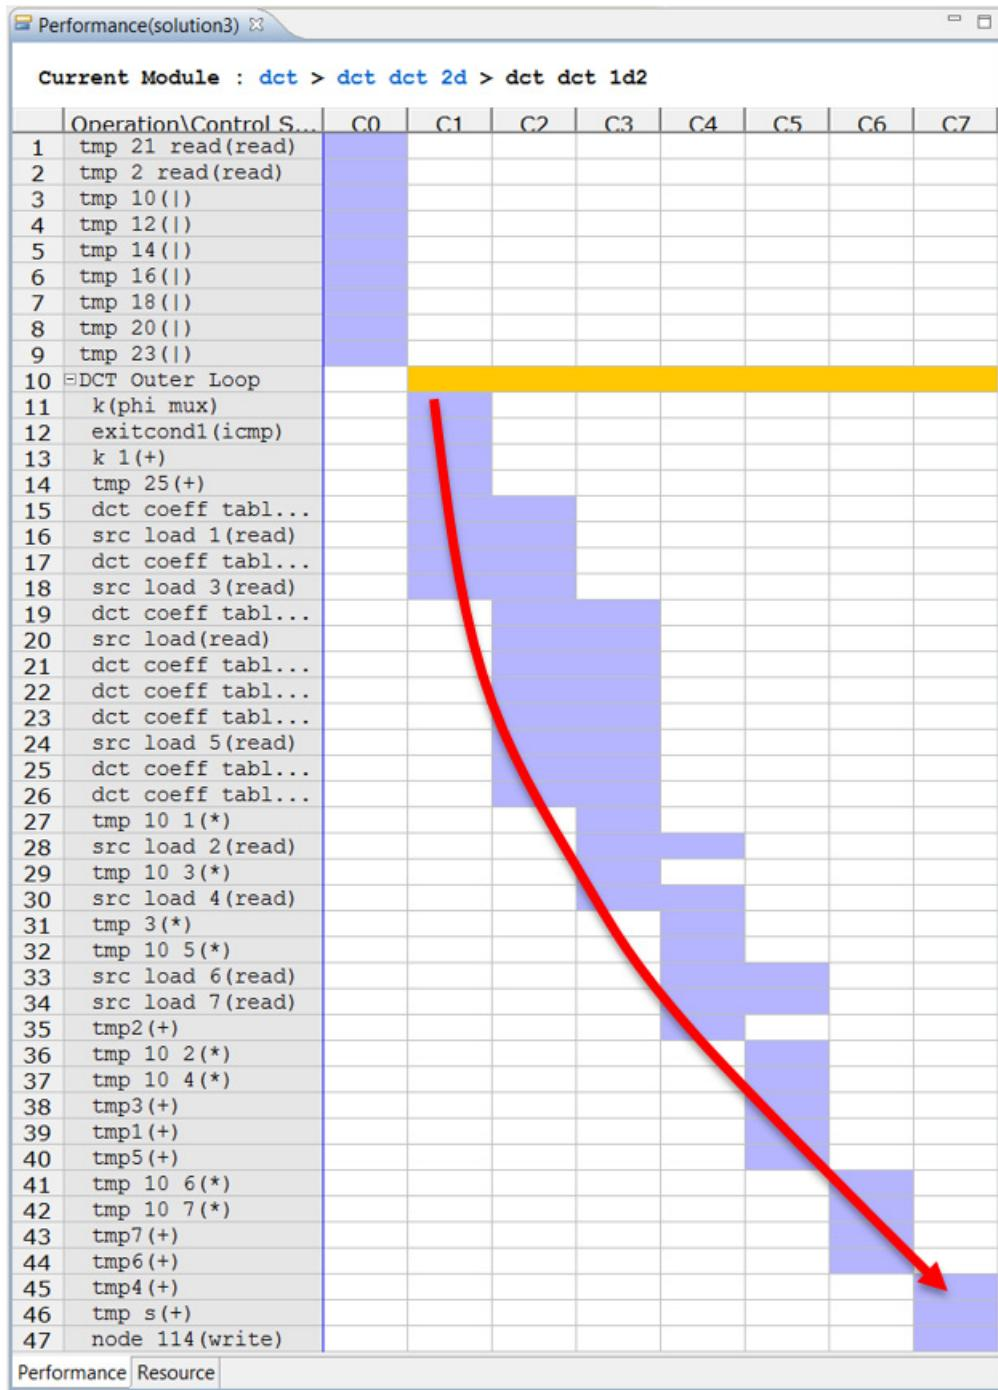

Figure 6-23: Analysis of dct_1d RD_Loop_Row
13. Expand the DCT_Outer_Loop to see the view shown in Figure 6-23.
Figure 6-23 shows a very different view from the earlier loop schedules (which had only a few cycles of latency). The schedule shows a long drift from input to output (as shown by the red arrow).
Figure 6-23: Analysis of `dct_1d RD_Loop_Row`.